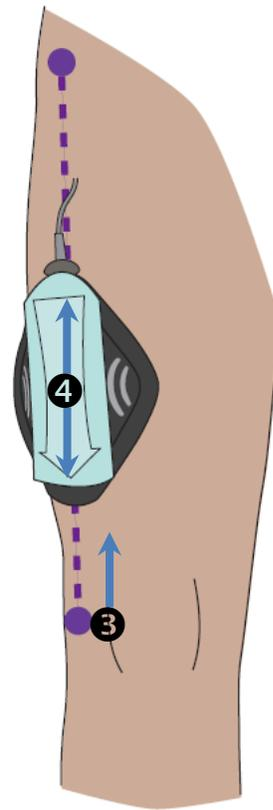

Figure 14. Ray Placed on Thigh
- 3 Align the Ray so the arrow is pointing towards the lateral femoral condyle, with the tip of the Ray a hand's breadth superior to the lateral femoral condyle (Figure 14 ❸).
- 4 Ensure the length of the blue part of the Ray aligns with the length of the imaginary line before pressing it onto the patient's skin (Figure 14 ❹).